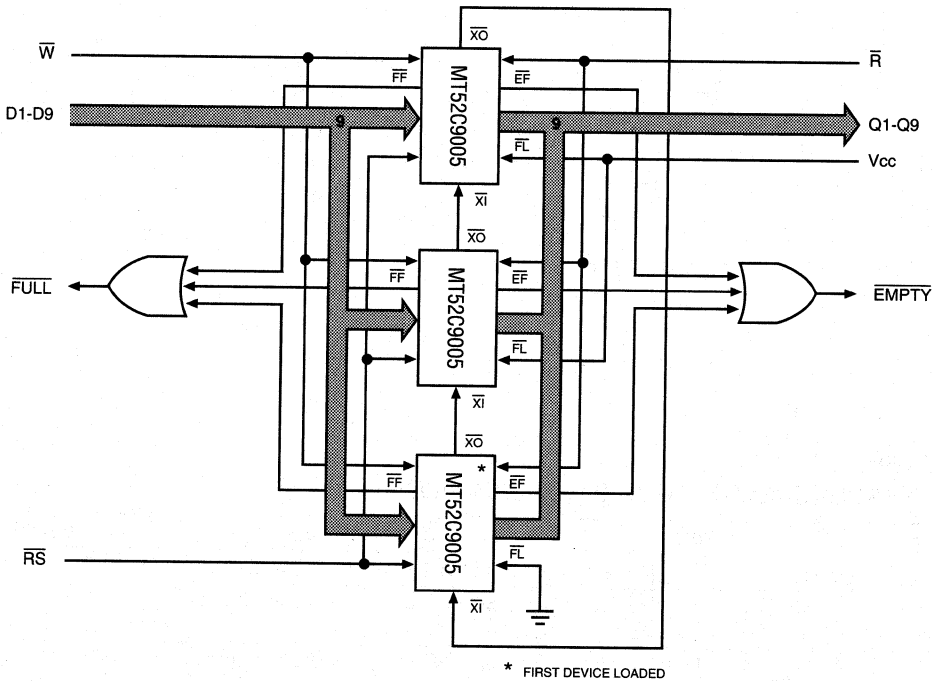

Figure 1 DEPTH EXPANSION
The FIFO word width can be expanded, in increments of 9 bits, using either the stand alone or groups of expanded-depth mode FIFOs. Expanded-width operation is achieved by tying devices together with all control lines (W, R, etc.) in common. The flags are monitored from one device or one expanded-depth group (Figure 1) when expanding depth and width.
Multiple MT52C9005s may be cascaded to expand the depth of the FIFO buffer. Three pins are used to expand the memory depth, XI, XO/(HF) and FL/(RT). Figure 1 illustrates a typical three-device expansion. The DEPTH EXPANSION mode is entered during a RESET cycle, by tying the XO/(HF) pin of each device to the XI pin of the next device in the chain. The first device to be loaded will have its FL/(RT) pin grounded. The remaining devices in the chain will have FL/(RT) tied HIGH. During RESET cycle, XO/(HF) of each device is held HIGH, disabling reads and